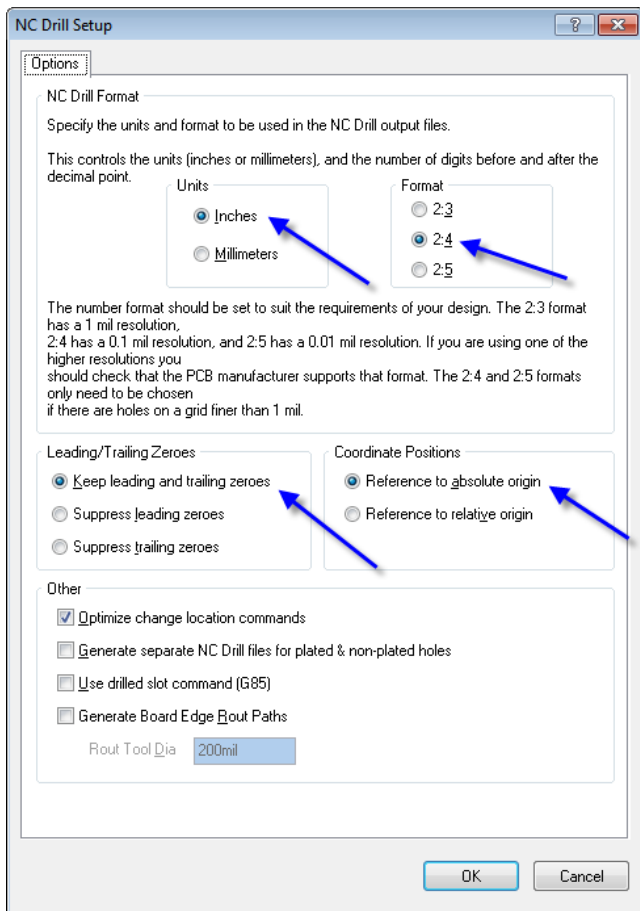

Figure 20 - NC Drill Setup (Altium Designer 2009)
1.1	<ul style="list-style-type: none">• Figure 20 changed to use “absolute origin”• Change format of document